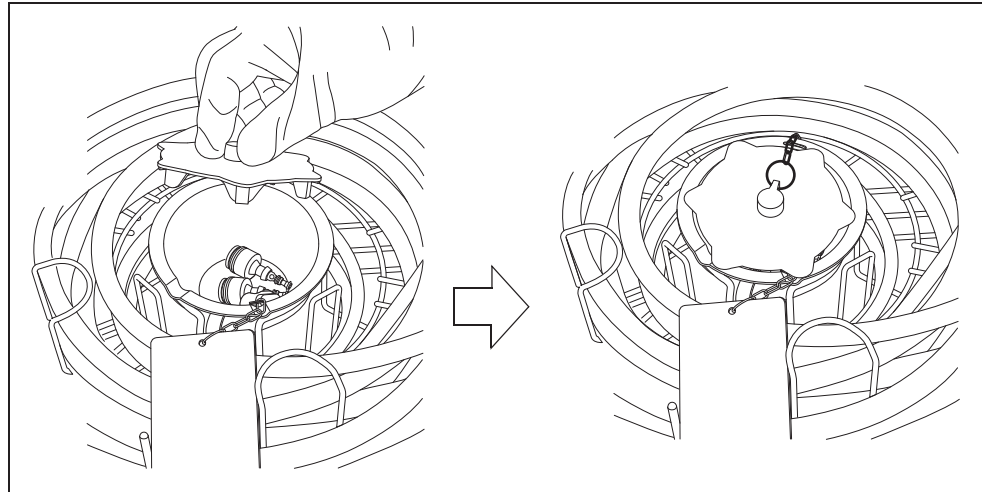

Figure 6.10
- 4 Close the washing case cover so that the chains of AW channel cleaning adapter are not caught between the case and the cover. Place the indicator plate of AW channel cleaning adapter on the endoscopes as shown in the Figure 6.10.